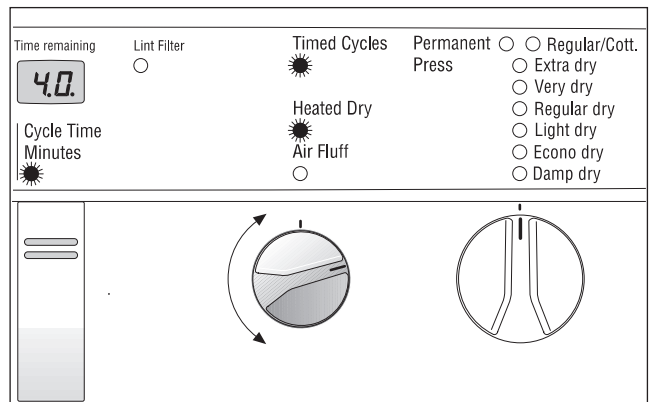

Figure 4.
- To use **Time Cycles** (dryer runs for selected length of time) activate by turning the time program selector (see Figure 4):